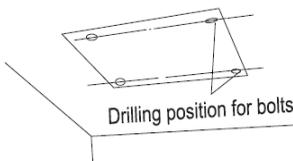

Fig.5
- (1) Using the installation template, drill holes for bolts (four holes). (Fig. 5)